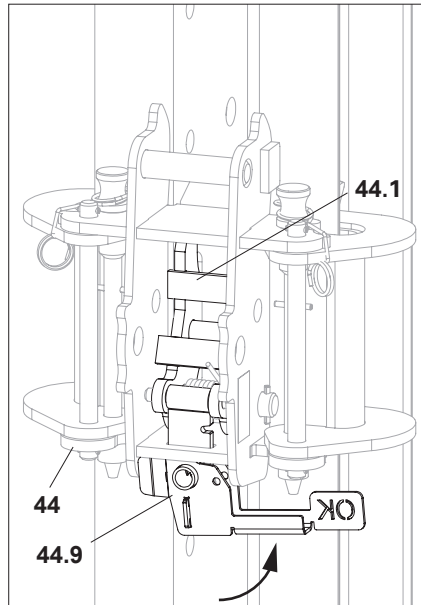

Fig. D2.10
2. Swing the Climbing Shoe Display RCS (44.9) on the Climbing Shoe RCS (44) upwards.
- (Fig. D2.10 + D2.10a)